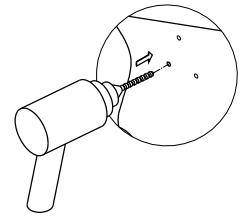

Fig. 4
- Step 4. Drill holes, insert anchors (included) and tap until flush with the wall. (Fig.4&5)